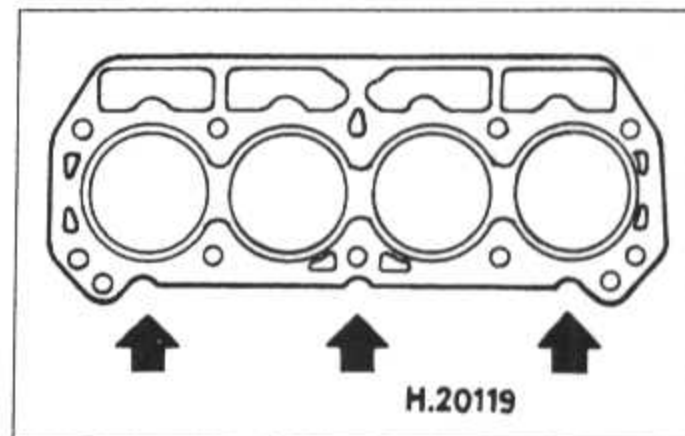

Fig. 1.5 Cylinder head gasket identification - OHV engines (Sec 12)
- 19 It should be noted that the cylinder head gasket must be renewed when refitting and it is essential that the correct type is fitted according to model (see Figure 1.5).